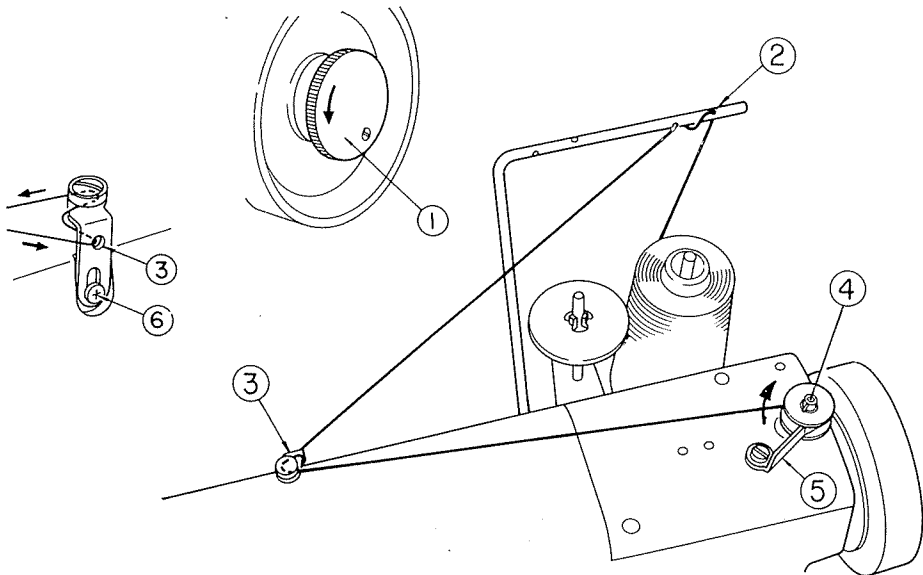

Fig. 7
As shown in Fig.7 and 8 turn the stop motion screw ① counterclockwise to allow the hand wheel to run idle. Pull out the thread from the spool through the hole ② located on the spool frame, pass it through a hole in the thread guide frame ③ from rear to front and pass the thread through the gap between the frame and the tension disc on the thread guide ③. Wind the thread several times round the bobbin and then insert the bobbin in such a manner as to allow the pin on the bobbin winder spindle ④ to fit into the notch on the bobbin. Then press the trip latch ⑤ against the bobbin to allow the pulley to come into contact with the hand wheel and wind the thread round the bobbin by turning the hand wheel toward you. When the thread is wound round the bobbin to its full, the trip latch ⑤ will come off the bobbin automatically to stop the rotation of the bobbin. If the thread would be wound one-sidedly, you should loosen the setscrew ⑥ on the thread guide frame, move the frame up and down, and tighten the setscrew at such position that may facilitate even winding of the thread.